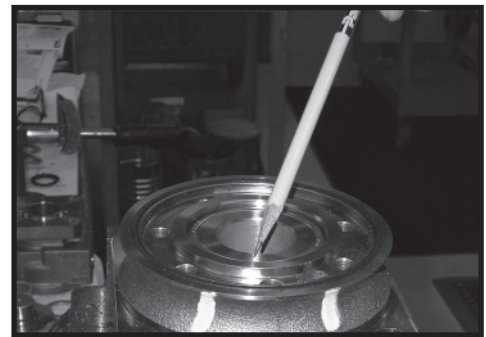

Figure 48
**CAUTION: The outer bearing (19) is not lubricated by the system's hydraulic fluid. Be sure it is thoroughly packed with the recommended grease, Parker Gear grease specification #045236, E/M Lubricant #K-70M.**
**NOTE: The coupling shaft (12) will be flush or just below the housing wear surface on Small Frame, Series TC, TS, TB, TE & TJ Torqmotors™ when properly seated while the coupling shaft (12) on Large Frame, Series TF, TL, TG, or TH Torqmotors™ will be approximately .10 inch (2.54 mm) below the housing wear plate surface to allow the assembly of thrust bearing (11). The coupling shaft must rotate smoothly on the thrust bearing package. SEE FIGURE 48.**